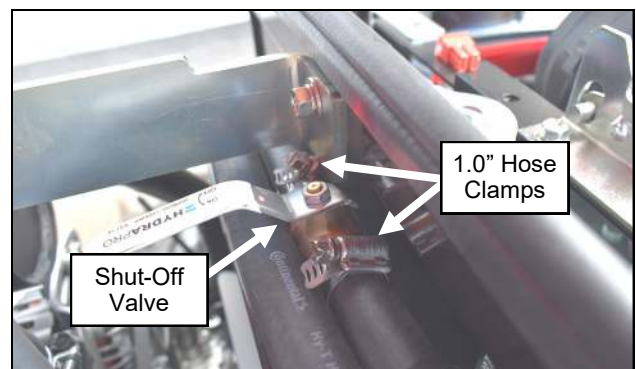

Figure 20.8 (Install Shut-Off Valve)
- 20.8** Cut the hose that was run to the hose barb on the thermostat housing and install the provided shut-off valve with two 1" hose clamps. The location is not important, but on top of the radiator is recommended. See Figure 20.8.